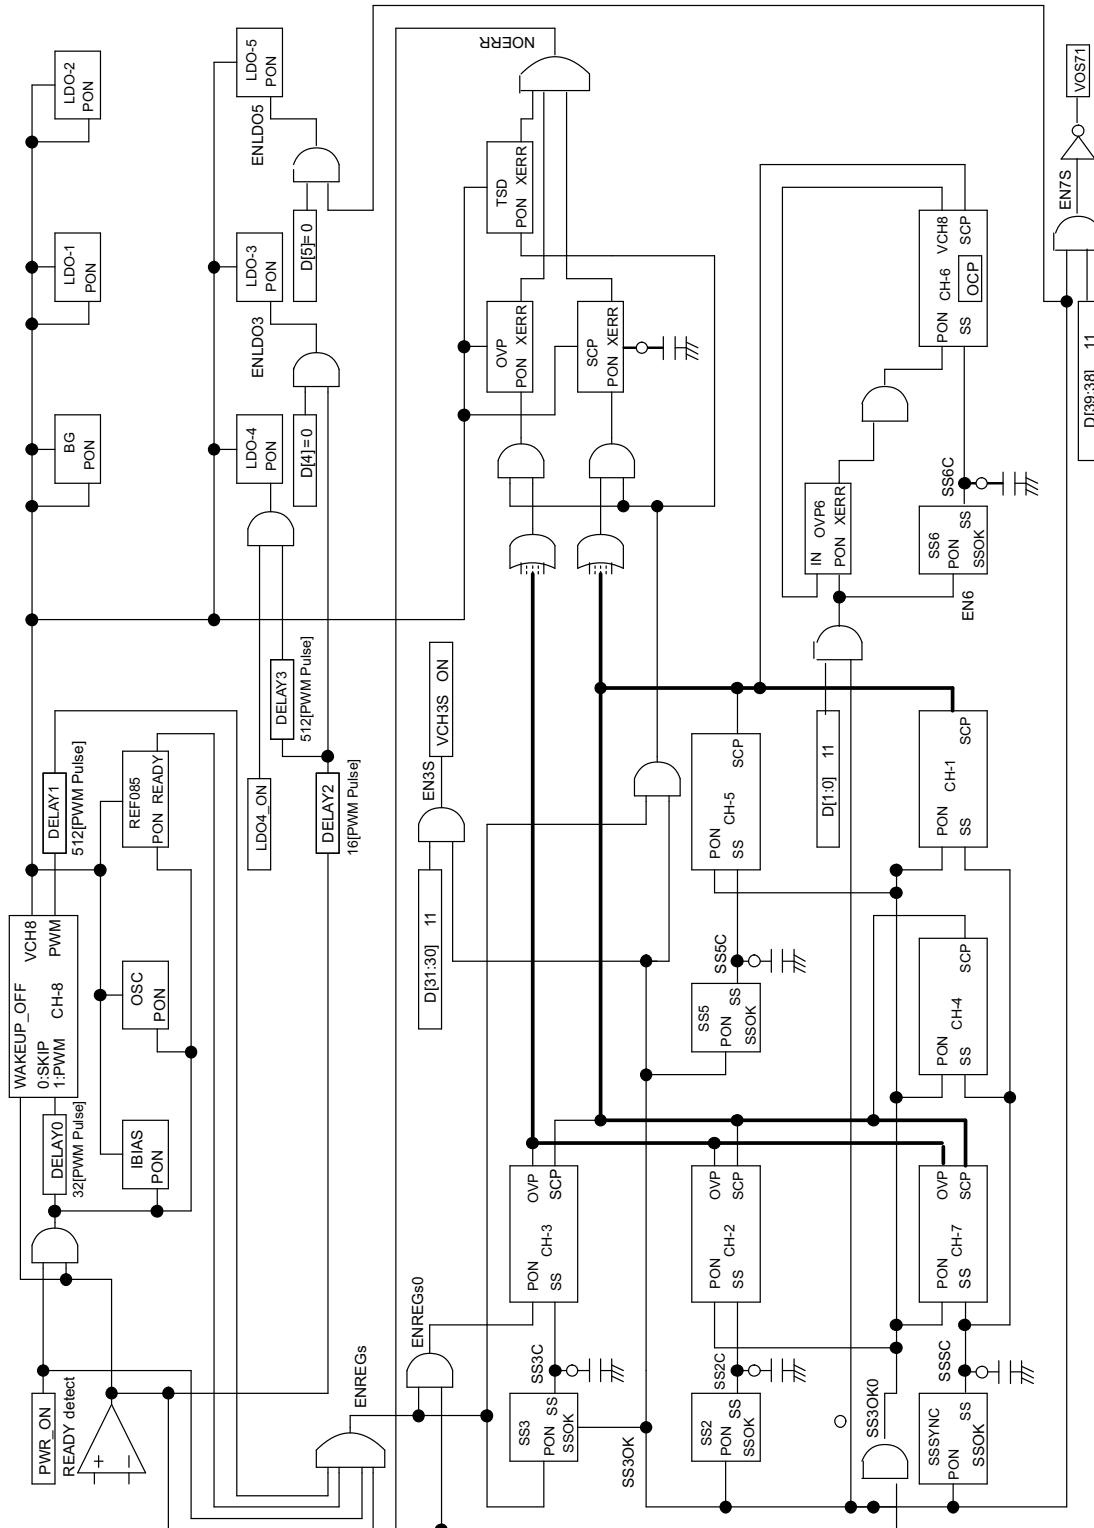
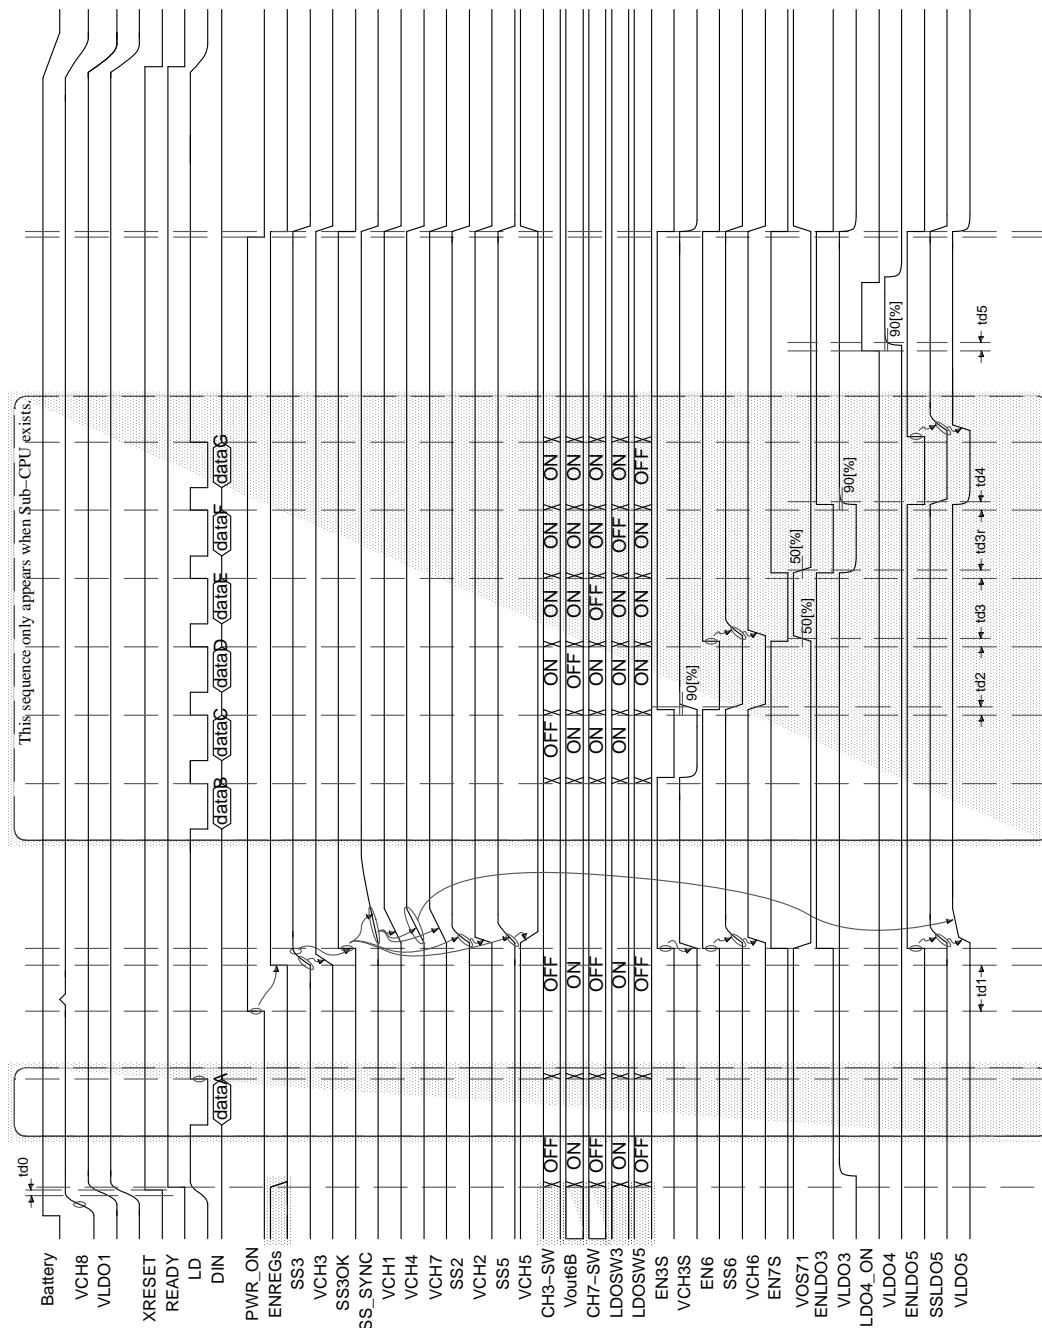

Figure 29. Enable Signal Connections
Figure 30. Operation Sequence Chart
A delay is inserted before LDO-3 is turned on so that the entire system can start up and be stable. LDO-3 cannot be turned on until approximately 30 μ s elapse after the detection of READY. DELAY2 in Figure 29 represents this delay.
To prevent an inrush current during startup, LDO-4 has a delay so that it is not turned on simultaneously with LDO-3. LDO-4 cannot be turned on until 1.03 ms elapses after the detection of READY. This ensures that LDO-4 is not turned on until 1 ms elapses after the startup of LDO-3, which is turned on 30 μ s after READY detection. DELAY3 in Figure 29 represents this delay.
Figure 29 shows the connection of enable signals for the TPS65520. Figure 30 shows a timing chart. In Figure 30, ENREGs, EN3S, EN6, EN7, ENLDO3, and ENLDO5 represent the internal enable signals shown in Figure 29.
In Figure 30, the TPS65520 performs the following operation, described along the time axis in the figure:
2. On the rising edge of PWR_ON, CH-8 exits from skip mode and enters PWM mode. The DELAY0 and DELAY1 blocks, shown in the upper part of Figure 29, insert delays to ensure that the mode transition is over before channels start operating, resulting in a total delay of 544 PWM pulses to complete this process.
The shaded portions of Figure 30 represent the on/off control applied by the Sub-CPU (if used) through the serial interface. If a Sub-CPU is used, control registers are written between the rising edges of XRESET and PWR_ON. Any channels that have been turned off do not start until the Sub-CPU turns them on again. If the Sub-CPU specifies off for a channel that has been active from the startup, the channel goes off from that instant.